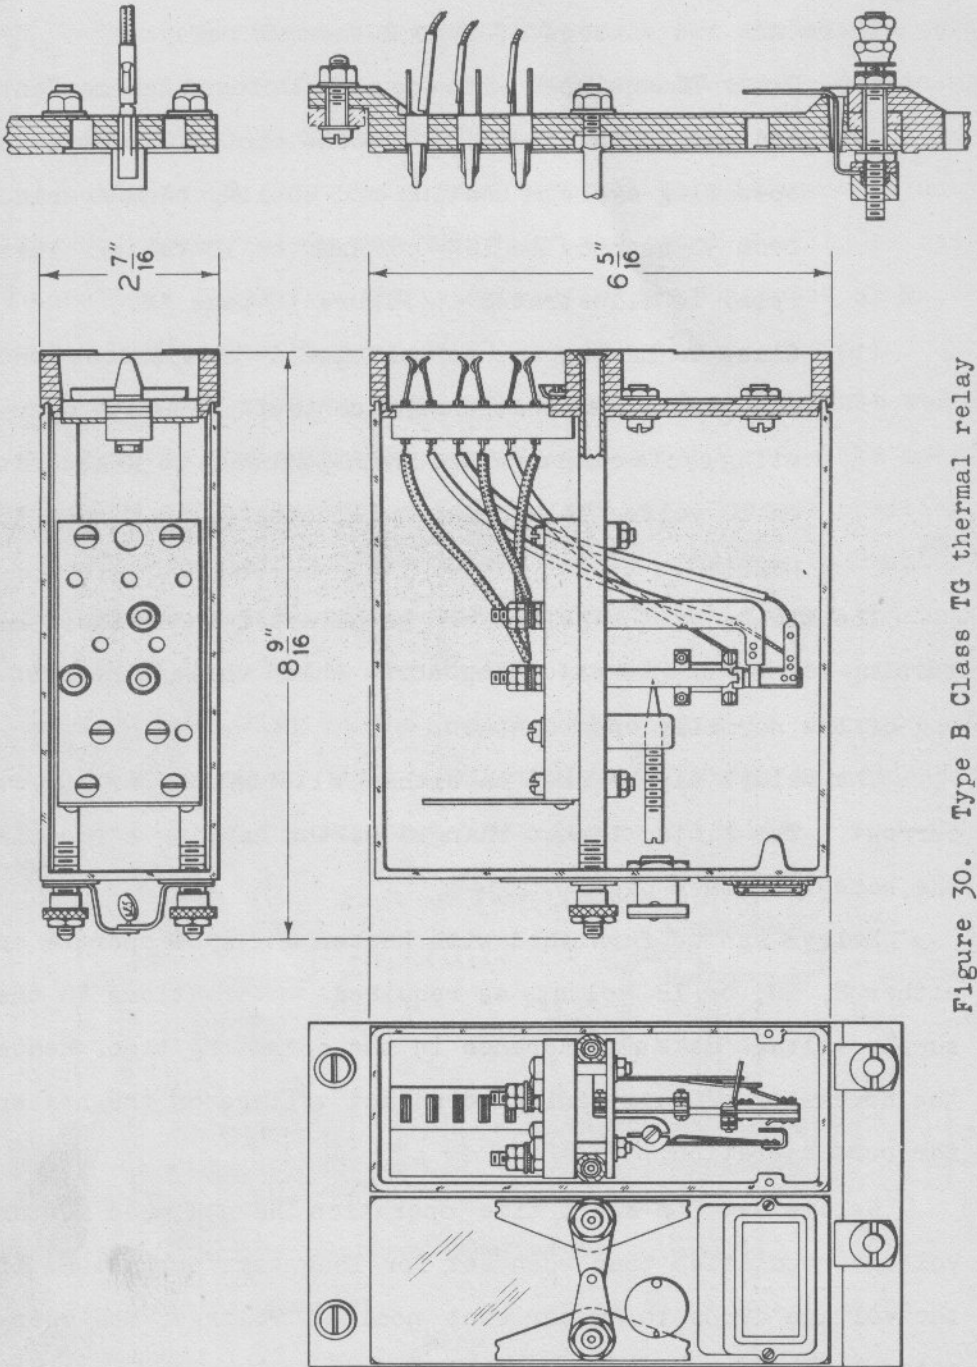

Figure 30. Type B Class TG thermal relay
- (a) **Class TG** equipped with one normal closed independent and one normal open independent contact. Complete operating cycle of heating and cooling can be varied from 30 seconds to 120 seconds on 10 volts. This relay is illustrated in Figure 30 page 38.